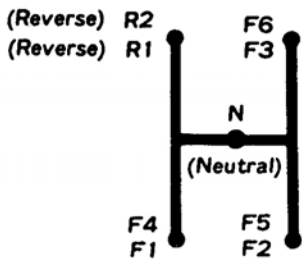

Fig. 75 — View showing main shift lever (2 — Fig. 73 or Fig. 74) shift pattern.
71. Main shift lever (2—Fig. 73 or Fig. 74) selects gear positions through an H-pattern as shown in Fig. 75. When range shift lever (33—Fig. 73 or 74) is placed in the low range position (up position), reverse one and forward one, two and three are attainable. When range shift lever (33) is placed in the high range position (down position), reverse two and forward four, five and six are attainable.
Fig. 77—Exploded view of transmission gears, shafts and other components showing relative installed position used on Model B5100D. For identification of parts, refer to legend in Fig. 75 except for the following front-wheel drive components.